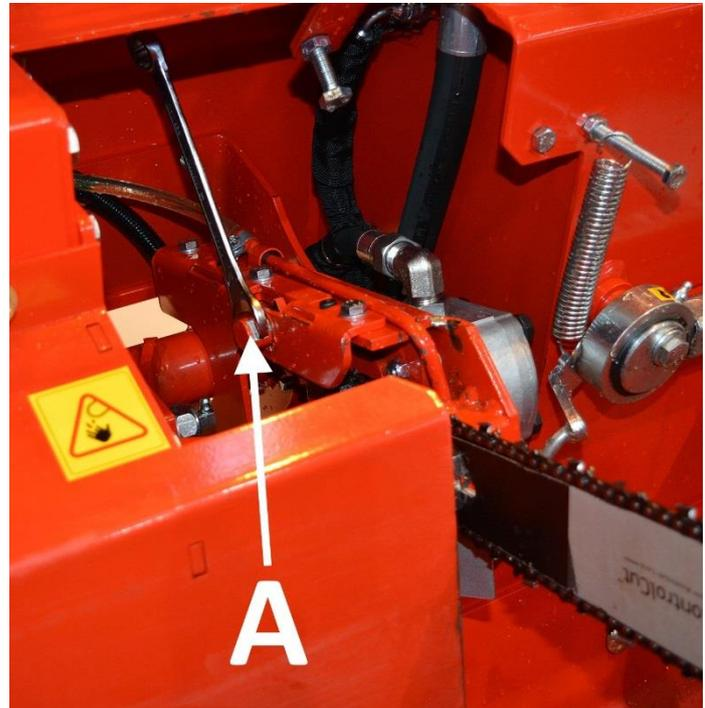

Figure 27.
3. Lower the saw bar about halfway down, as in Figure 27. Note! Use gloves!
4. Using a 17 mm wrench, turn locking part A (in Figure 27) about 90 degrees in the open direction to release the saw chain locking mechanism.
8. Also ensure that the chain is properly placed on the groove of the bar, and then tighten the chain by turning locking part A (in Figure 27) about 90 degrees to the close direction using a 17 mm wrench.